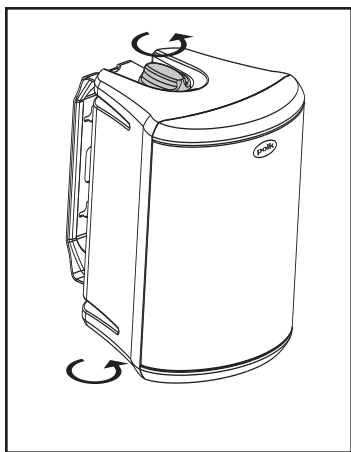

FIGURE 13
- 13) Once the speaker is mounted, the bracket knobs can be loosened to "aim" the speaker, and then hand-tightened to keep the speaker angled correctly [figure 13].
Attach and remove the speaker from the permanently secured bracket by tightening and loosening the bracket knobs [as shown in figure 13].